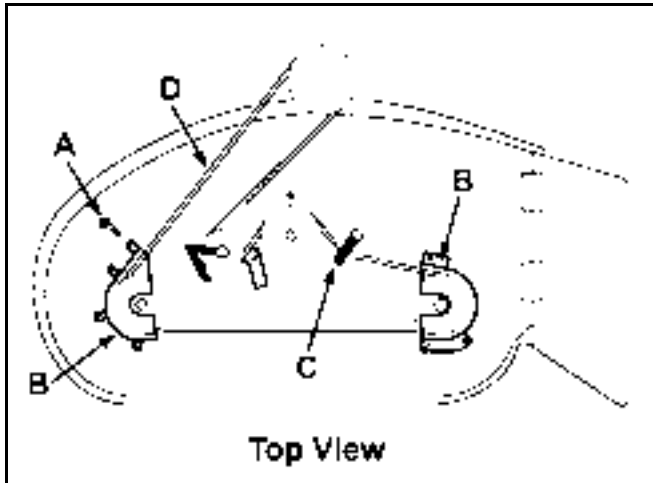

Figure 239
2. Remove the pulley cover mounting screws and pulley covers from blade pulleys (Figure 239).
3. Loosen idler pulley mounting bolts to move belt guides (Figure 239).
4. Remove the belt from the pulleys (Figure 239).
2. Adjust belt guide on idler pulley as shown and tighten mounting bolt (Figure 239).
3. Install the left and right pulley covers with the mounting screws (Figure 239).